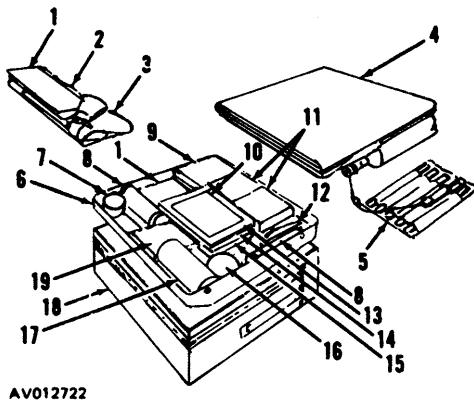

Figure 1-5. Rigid Seat Survival Kit for Overwater
j. If carbon dioxide cylinder (Item 4, Figure 1-5) fails to inflate the raft, it will be necessary to remove the raft from the container and inflate it by mouth using the oral inflation valve assembly.